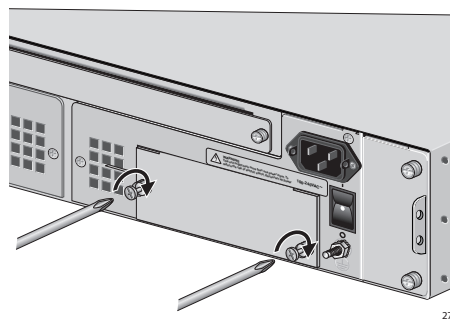

Figure 69. Tightening the Captive Screws on an AT-CV5PNL2
5. Use a Phillips screwdriver to tighten the captive screws, as shown in Figure 69.